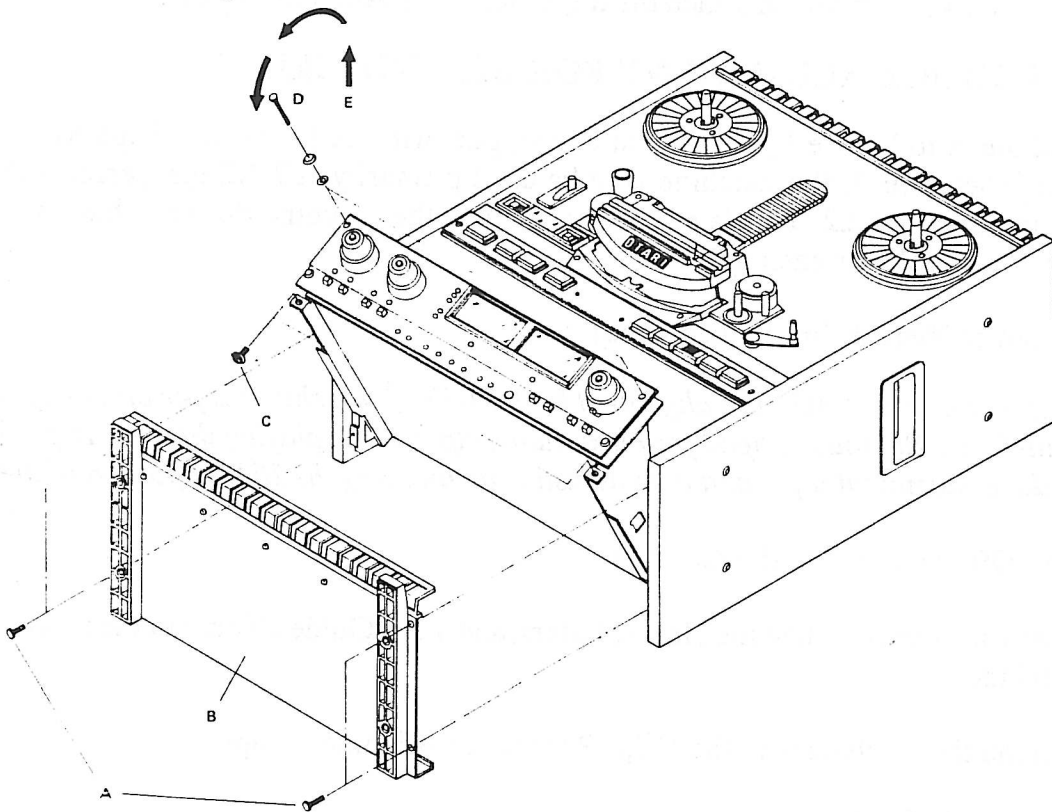

Figure 6 Opening the Bottom Panel
2. Remove the 4 screws marked "A" in Figure 6 and remove the bottom panel.